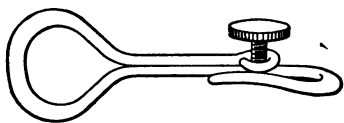

FIG. 29.
M. I first test my hydrogen to see if it is pure, and then light it. I open the clip so as to give a fairly large flame. For this purpose the clip is provided with a screw (Fig. 29). Now I bring up the platinum tip with